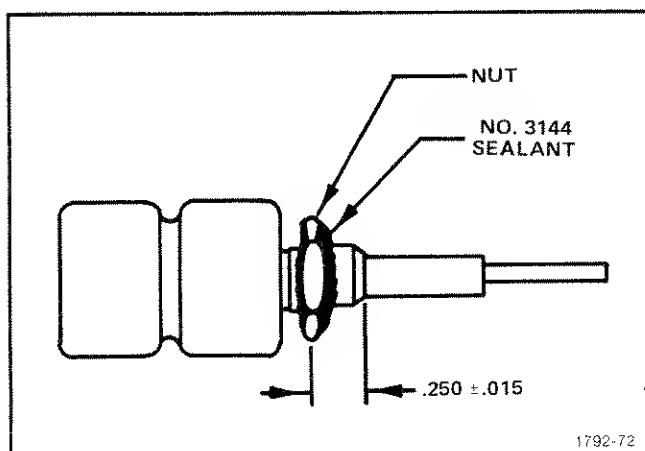

Fig. 5-19. Application of sealant to FINE control nut.
2. Install nut on bushing as shown in Fig. 5-19.
3. Form a bead of No. 3144 sealant at the interface of the nut and bushing as shown in Fig. 5-19.